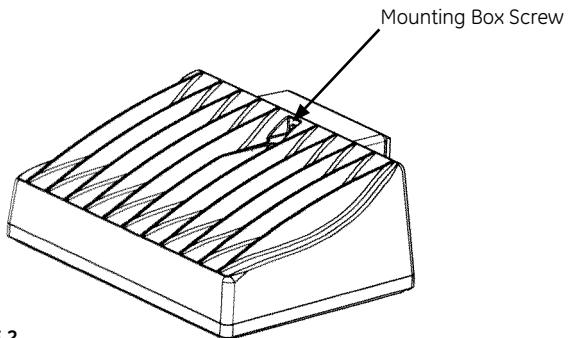

FIGURE 2
- Remove the back Mounting Box by loosening the single screw on the front of the unit and sliding the Mounting Box downward off of the mounting hook (see Figure 2).